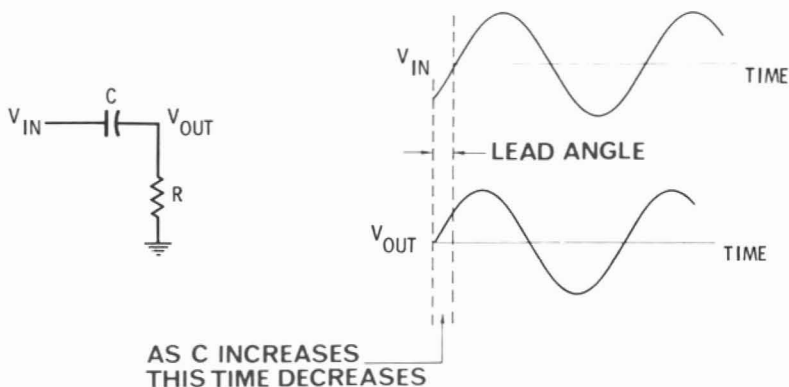

Fig. 5-14. RC network.
**RC Network**—The basic RC network used in the feedback path of phase-shift oscillators is shown in Fig. 5-14. If an a-c voltage is applied to such a circuit, the relationship between the magnitude of the capacitive reactance and the resistor will determine the phase relationship between the input and output signals. If the reactance of the capacitor [determined by  $X_c = 1/(2\pi fC)$ ] is very small with respect to the resistor value, no significant phase shift will occur. This is the case for a coupling capacitor as used in the ordinary amplifier.
- Q5-16. What does the phase shift between  $V_{in}$  and  $V_{out}$  in Fig. 5-14 depend on?